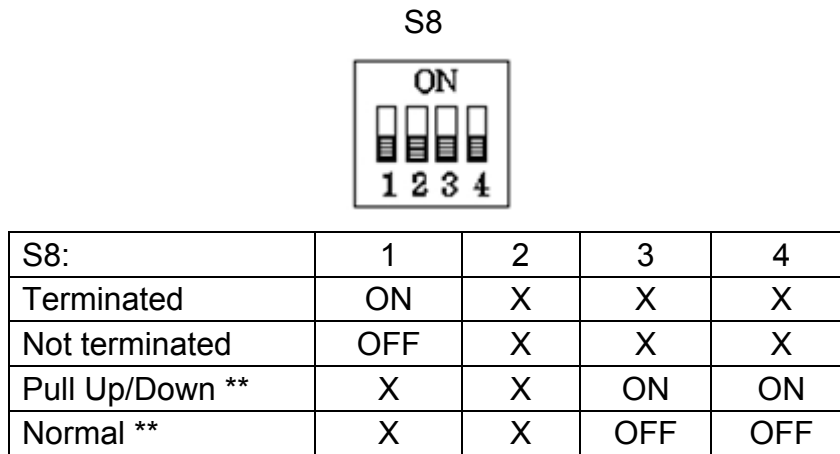

Figure 5 - Setting Dome Camera Termination
The dome camera can activate external devices such as buzzers or lights using dry contact relays. Connect the device to the NO (NC) (Alarm Out) and COM (Common) connectors. (See Figure 5 /12)